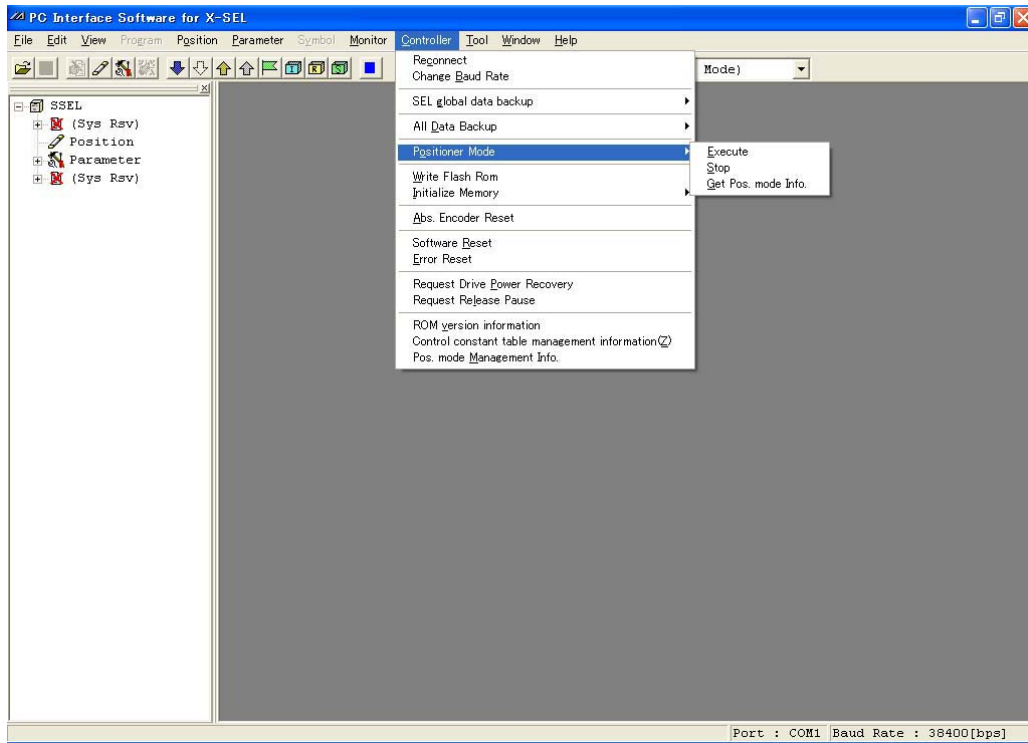

Fig. 13.5 Execue or Stop of Positioner Mode
Pressing the EMERGENCY STOP button or **Stop** in the screen of Fig. 13.5 will stop the positioner mode. Select **Positioner Mode (O)** from the **Controller** pop-up menu and then click **Stop (S)**.